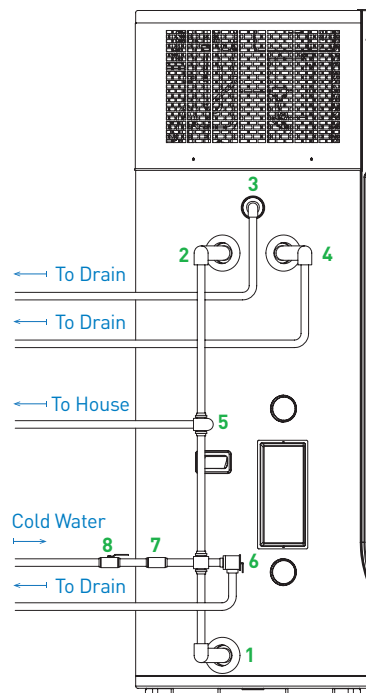

Figure 8
- Avoid placing the system in locations with multiple walls or structures (i.e., consult with Figure 7 and Figure 8).
- The safety relief valve on the tank, the PTRV (item #4 in figure 8), needs to be opened every six months to ensure it works correctly and is not blocked. Failure to do so may void the warranty.
- The process of heat extraction from the atmosphere through evaporator coils results in the production of water in the form of condensation. To collect this water by-product a Condensate Tray is located on top of the water storage tank. Overflow from this tray runs out through the Condensate Drain (item #3 in figure 8). The systems condensate drain is connected by a 1/2-inch copper elbow. Drain the condensate from the elbow to the nearest drainage using copper, PVC, PPR, or PEX pipes. If not drained properly, the condensate line will attract termites as well produce algae and moss growth. The Condensate line should be free of kinks and as the water is gravity fed, this should be vertical to ensure the free flow of water. Connecting any pipe directly to the condensate line without an air gap will void warranties.